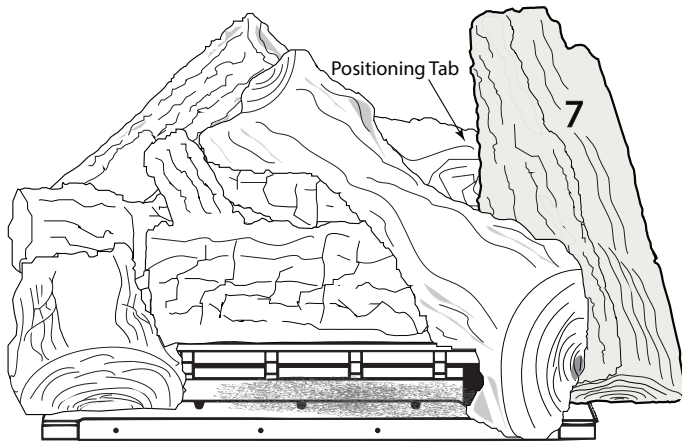

Figure 26 - Log #7 Placement
- Place Log #7 on the lower right side of the burner. Log #7 should rest on the front edge of the burner and the lower left side should contact Log #5. The upper left side of Log #7 should sit flush against the positioning tab on Log #2. See Figure 26.